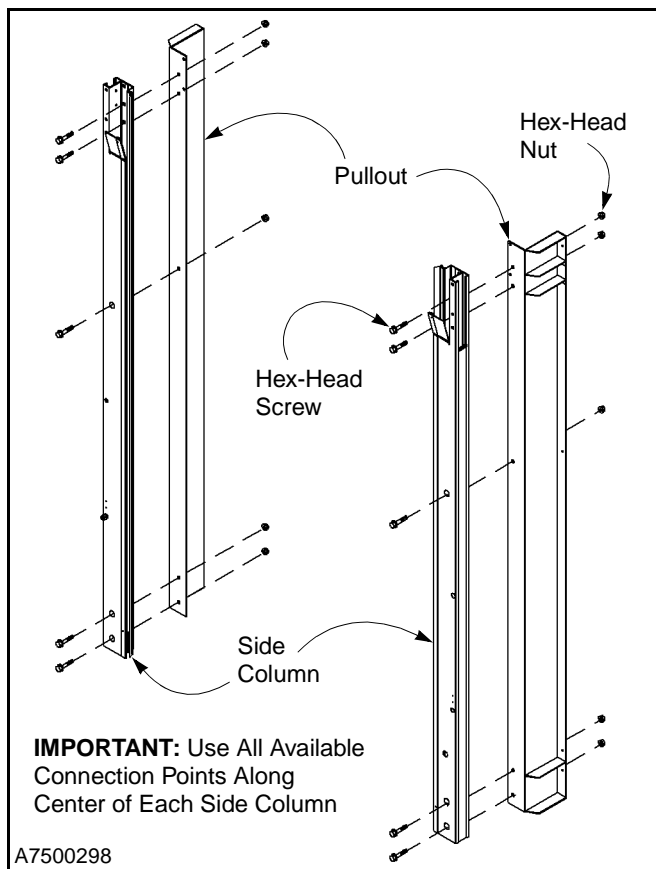

Figure 13
- Attach each pullout to its respective side column using six 1/2-13 x 1 1/4-in. serrated-flange hex screws and nuts for each assembly. (See Figure 13.)